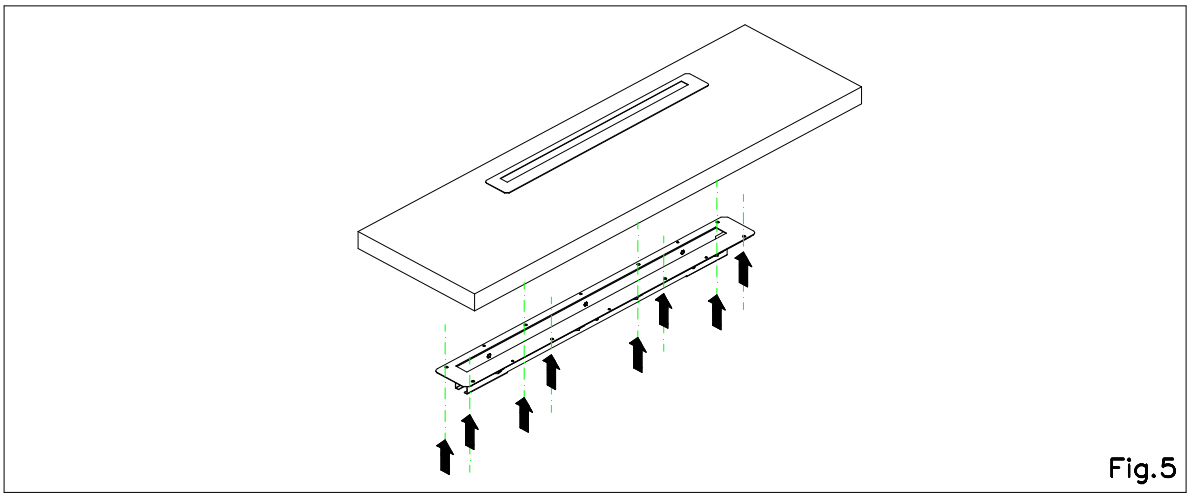

Fig.5
- 4) Place underneath the top of the kitchen, in the area of the holes, the anchoring support (Fig. 5) and fix it to the mounting plate using the appropriate screws included in the supply.